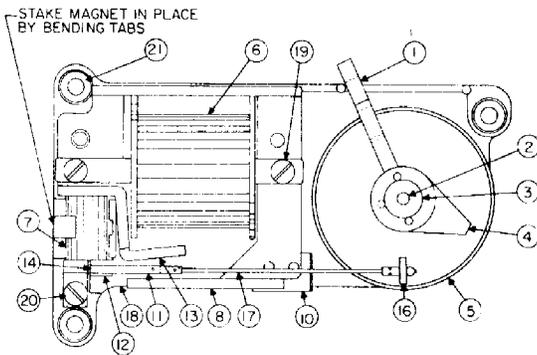

Figure 9. Type 860 Ringer.
11.01 The Type 860 Ringer (Figure 9) used in conjunction with the Type 860 CALL COMMANDER® Telephone Set is a single gong, single coil, straight-line ringer. The components are mounted on a rectangular frame with the gong assembly positioned at one end of the base. Elevated on a mounted platform opposite the gong assembly is the capacitor, clapper assembly, armature assembly, bias-spring assembly and magnet. Extending over the outer rim of the gong assembly is the gong silencer lever that is used to regulate ringing volume. Connected to one of the two pieces of fiberboard that are used to enclose the coil assembly are two wiring leads that are to be connected to transmission-unit terminals. For a complete component description see Table 25.
11.02 To disassemble the Type 860 Ringer (Figure 9), proceed as follows:
- (a) Remove the ringer coil (item 6) by removing the two screws (item 19) from each end of the metal coil support bar.
- (b) Unscrew the armature mounting bracket screw (item 20) from the armature mounting bracket (item 14) to free the armature (item 13) clapper (item 16) clapper rod (item 17) and bias spring (item 9).